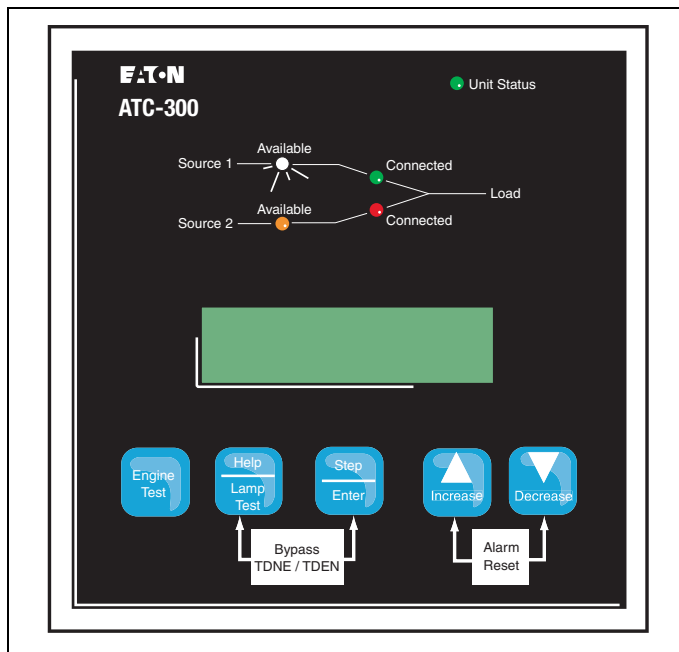

Figure 48. ATC-300 Logic (Utility Supplying Load).
For 4 pole transfer switches, connect the load cables (TN), Source 1 or utility supply (NN), and Source 2 or generator supply (EN). Refer to Figure 48 for the location of all parts discussed in this document. Figure 17 also shows the bus configurations for a three pole system.
Step 5: Apply Utility (Source 1) power. If the switch is properly applied for the system voltage ordered, the display should work and the Source 1 Available white LED should light (see Figure 48). Using a voltmeter, check for proper system voltage on Source 1 and load terminals. Check all phases on a 3-phase switch. Voltage measurements should be taken phase to phase and phase to neutral.